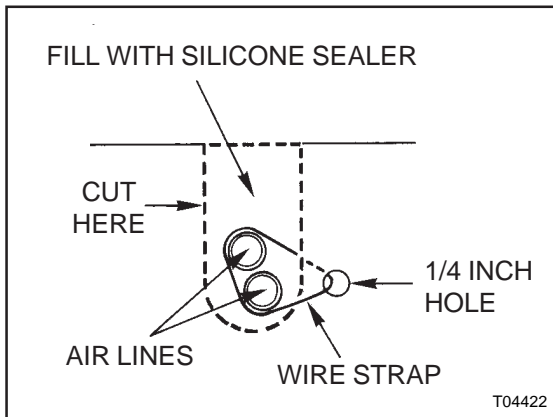

Figure 5: Air line slot
7. Drill a 1/4 inch hole next to the lower half of the slot and tie down the airlines with a wire strap, taking care that the lines do not touch the slot edge (see figure 5).